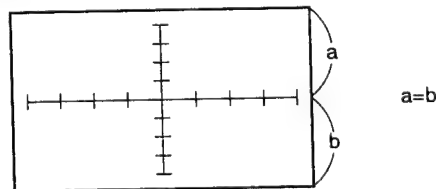

Fig. 4
5. Turn the main deflection yoke to adjust the screen tilt. (Fig. 4)